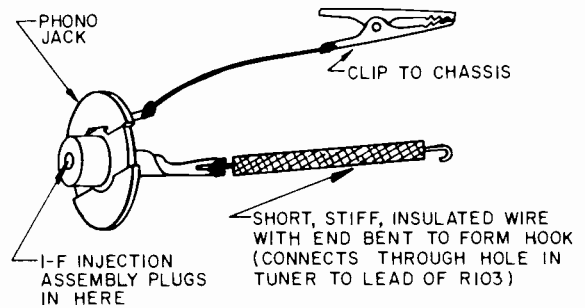
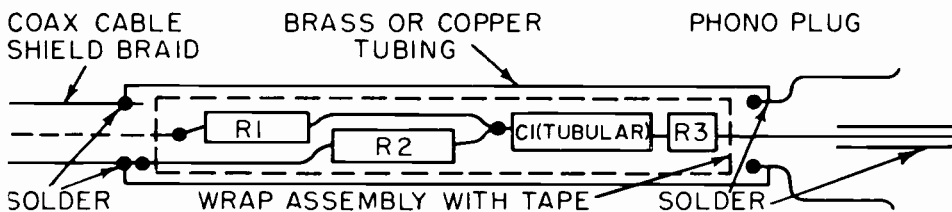

FIG. 3 INJECTION ADAPTER, 13-POSITION TUNER
FIG. 4 I-F INJECTION NETWORK PLUG CONSTRUCTION
*NOTE: On the 13-position (VHF - UHF) tuner, WT86X103, the IF injection point is not connected to a jack, but is accessible through a hole in the top of the tuner chassis at the base of the 6CG8A tube (V2). On either of the 12-position VHF tuners, WT86X104 and WT86X106, a jack is provided. The plug-in assembly illustrated in Figure 4 can be plugged directly into the injection jack on a 12-position tuner, but must be connected to the 13-position tuner through an adapter of the type shown in Fig. 3. In this case, the insulated wire connected to the inner contact of the phono-jack adapter is inserted carefully through the hole in the tuner case and hooked securely around the lead of resistor R103 which passes directly beneath the hole. The ground lead from the adapter jack is clipped to a convenient chassis point nearby and the injection assembly plugged into the adapter to complete the coupling. Proceed as follows: